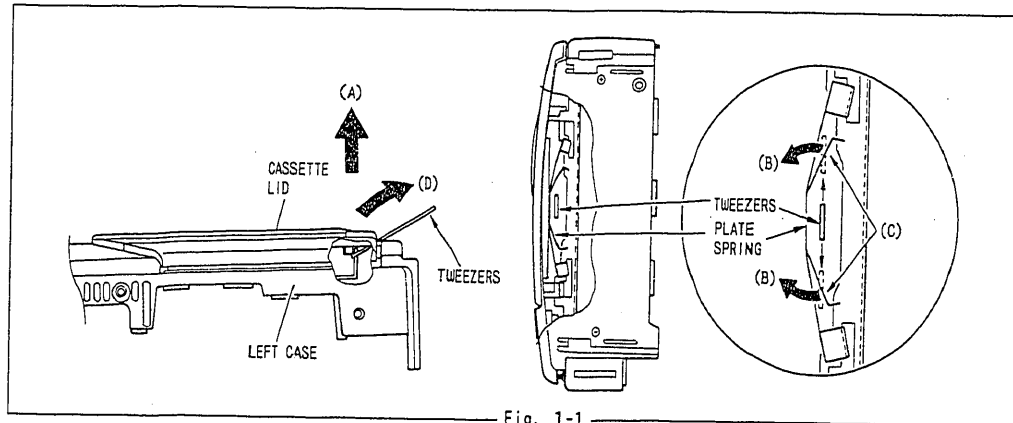

Fig. 1-1
- ① Lift the cassette lid in the direction of arrow (A) and insert tweezers between the cassette lid and left case. (Fig. 1-1)
- ② Release two (2) tabs (C) of the plate spring in the cassette lid in the direction of arrows (B) and remove the cassette lid in the direction of arrow (D).